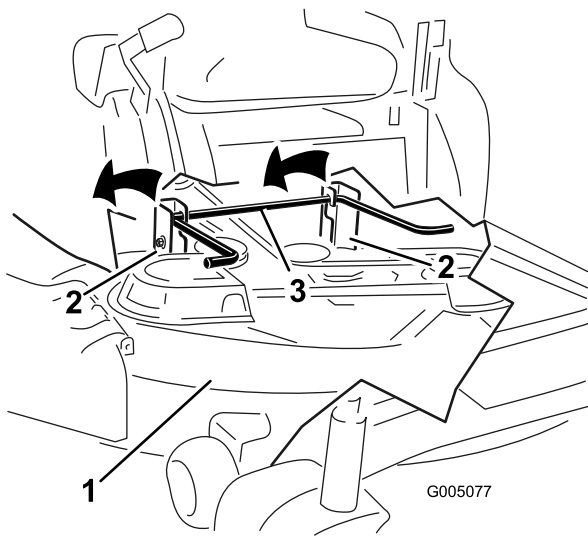

Figure 53
5. Lift the mower deck and hanger brackets clear of the rear lift rod and lower the mower carefully to the ground (Figure 53).
5. Lift the rear of the mower deck and guide the hanger brackets over the rear lift rod (Figure 53).